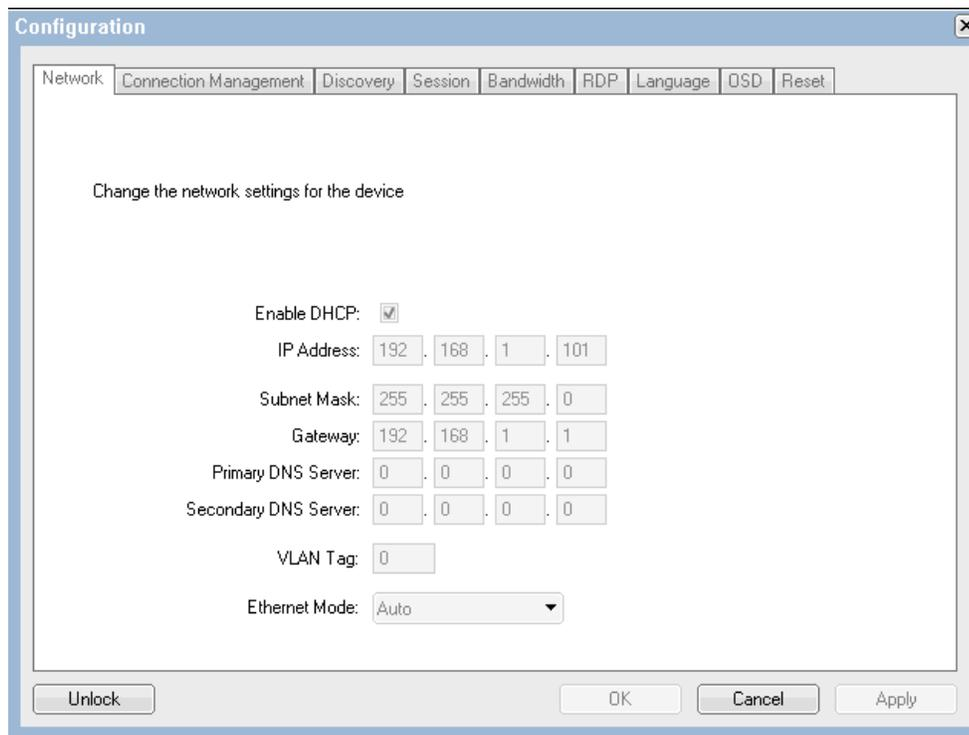

Figure 6-10 The network tab of the CP20 interface
5. Enter the subnet mask and gateway of your network. This mask must be the same as the HC10 for the CP20 and HC10 to communicate (see Figure 6-10 on page 103).
4. In the resulting dialog box, select **Configuration** → **Network**. See Figure 6-10 on page 103.
To establish a connection, the network settings must be configured through the Network tab as shown in Figure 6-10. See also 6.2, “Specifying how the Ethernet switch modules are used” on page 100.